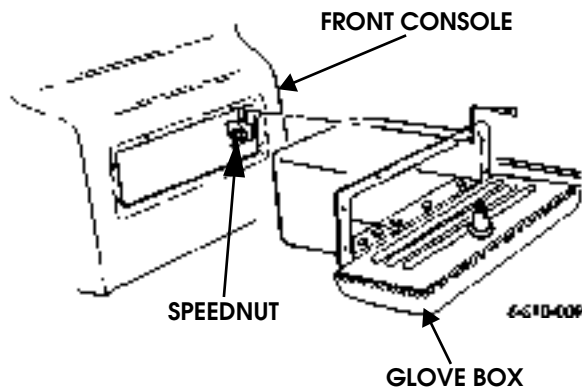

Figure 10-14: Glovebox Mounting
- g. Remove screws, glovebox, and speednuts (Figure 10-14).